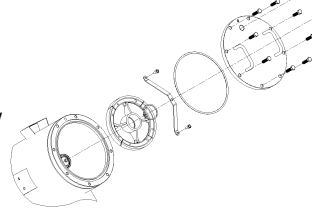

Figure 1
CAUTION – The lid weighs approximately 40 lbs. Use proper precautions when handling the lid to avoid injury or damage to the equipment. See Figure 1.
39. Secure the lid to the filter housing with the eight 1/2-13 lid bolts. The bolts should be tightened to 45 ft-lbs torque. See Figure 1.